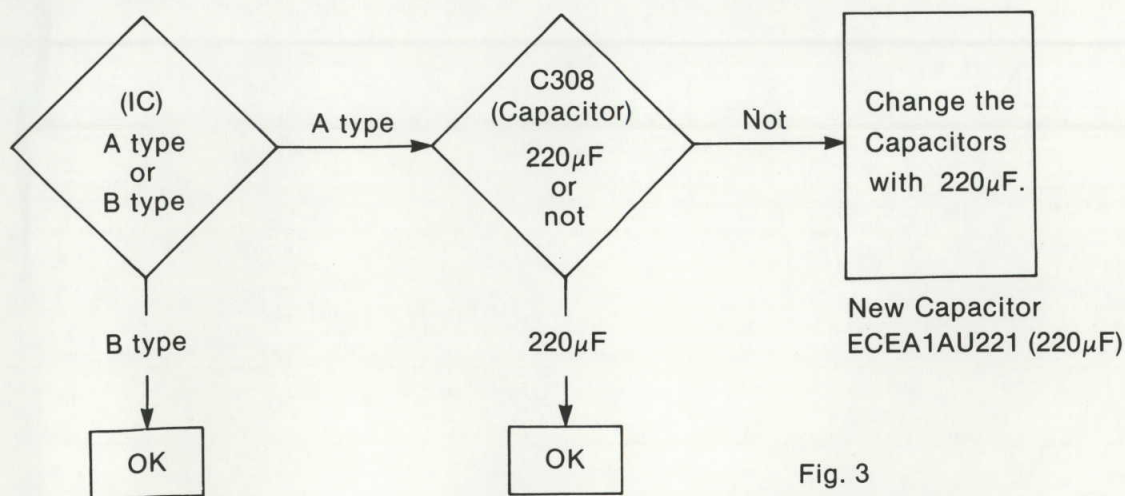

Fig. 3
- When the capacitor is not $200\mu\text{F}$, change the capacitors with $220\mu\text{F}$. (Refer to Fig. 3)